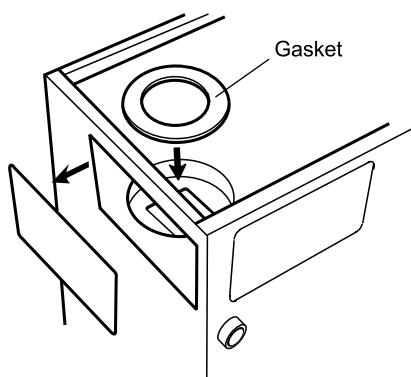

Fig. 21
- 3 Place the circular fibre gasket into the boiler flue spigot. See Fig. 21.